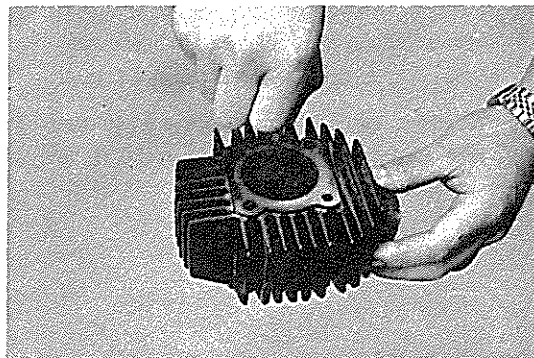

Fig. 3-5-4
- 1) Measuring piston ring wear .Put the ring into the cylinder so that the ring is parallel to the cylinder bottom edge, and then measure the end gap with a feeler gauge (Fig :3-5-4)